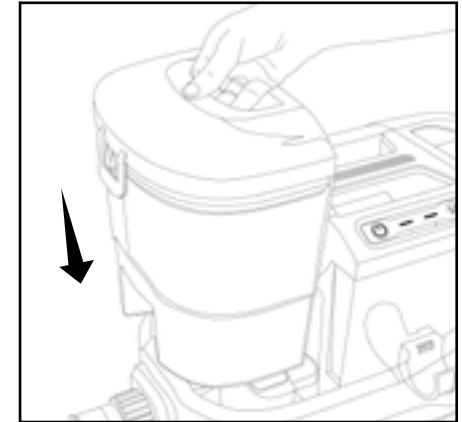

Fig. 5
5. Replace the dirty water tank onto the machine (Fig 5)